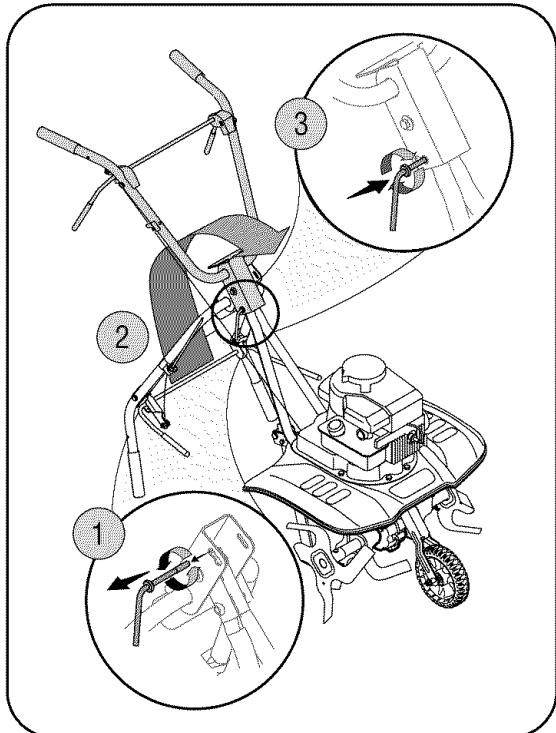

Figure 1 - Assembling the Upper Handle
1. Remove the handle adjustment lever, Step 1 Figure 1.
2. Lift up the upper handle to raise into operation position, Step 2 Figure 1.